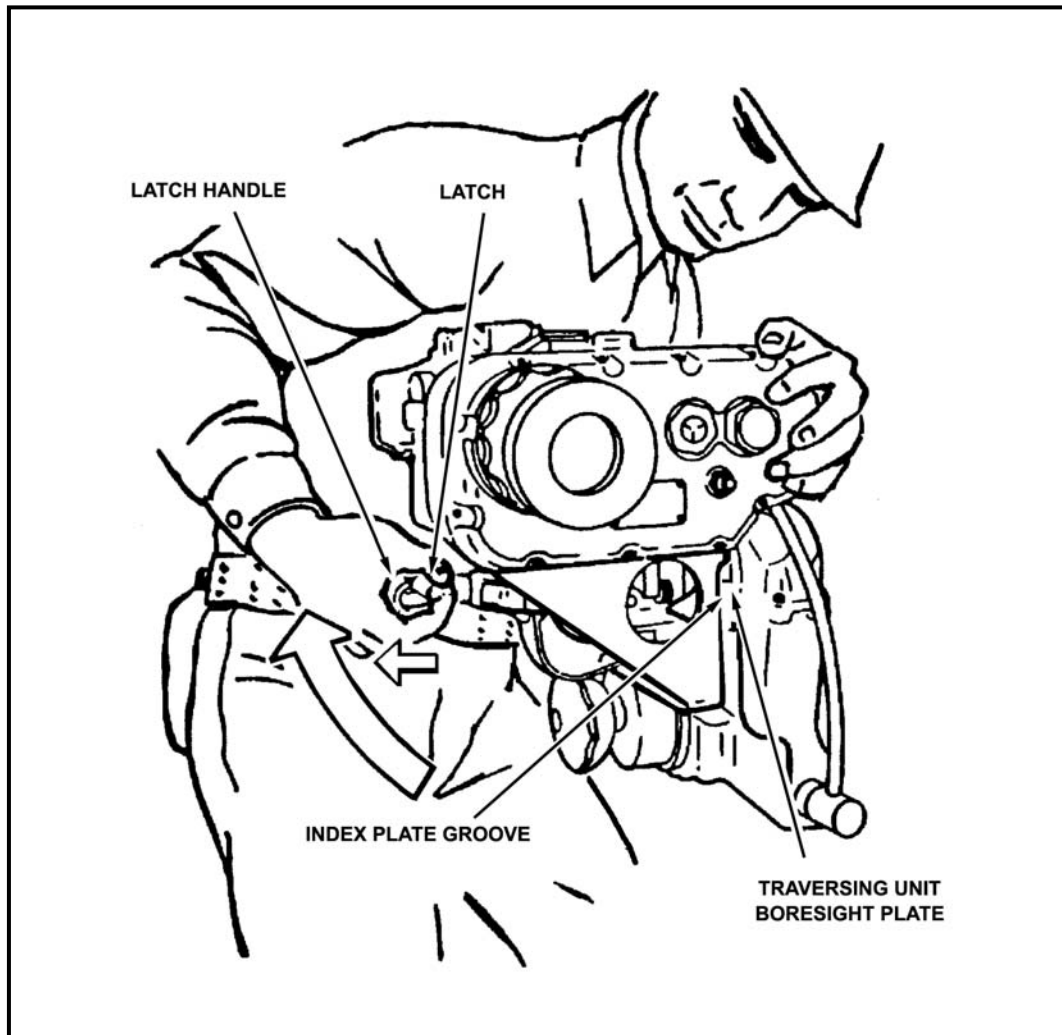
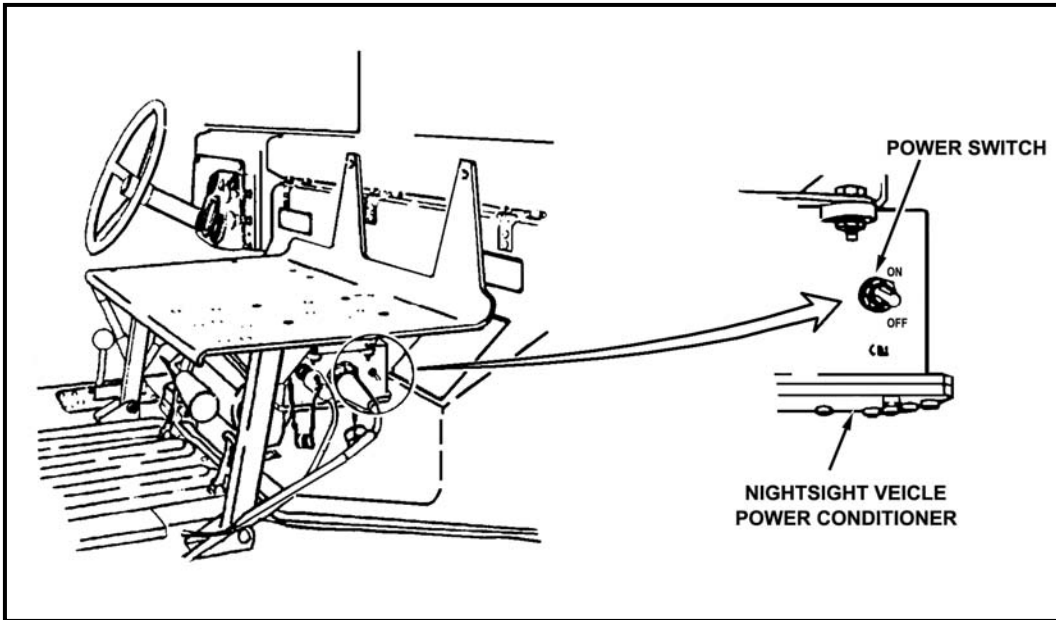

Figure 3-11. Daysight tracker on traversing unit boresight plate.
Figure 3-12. Nightsight power cable 2W2, J1 connector, and vehicle power conditioner.
(1) The driver-loader hands the daysight tracker to the gunner.
(2) The gunner mounts the daysight tracker on the traversing unit boresight plate. He secures the daysight tracker by locking the latch handle (Figure 3-11).
(3) The driver-loader stows the nightsight case in its bracket.
(4) The squad leader connects connector P2 of the TVPC power cable to the power conditioner cable.
(5) The squad leader unwinds the nightsight power conditioner cable and TVPC cable and hands both to the gunner.
(6) The gunner connects the nightsight power cable 2W2 to the nightsight input power conditioner J1 (Figure 3-12, page 3-12), then connects the TVPC power cable P1 to connector J1.
(7) The squad leader turns on the TVPC.
(8) The gunner turns on the power conditioner.
(9) The gunner checks steps 10 through 15 of system self-test on TOW 2 (positions 1 and 7 on basic TOW), then collimates the nightsight.